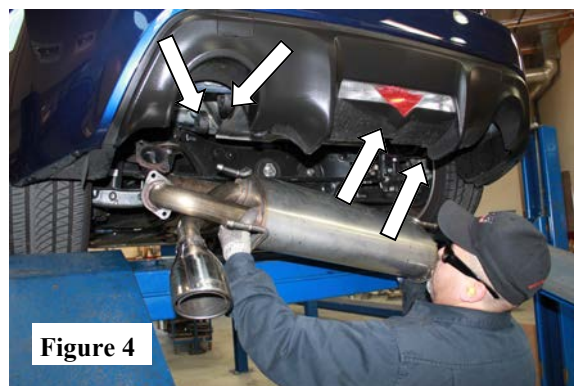

Figure 4
1. Insert hangers into rubber isolators. (See Fig. 4)